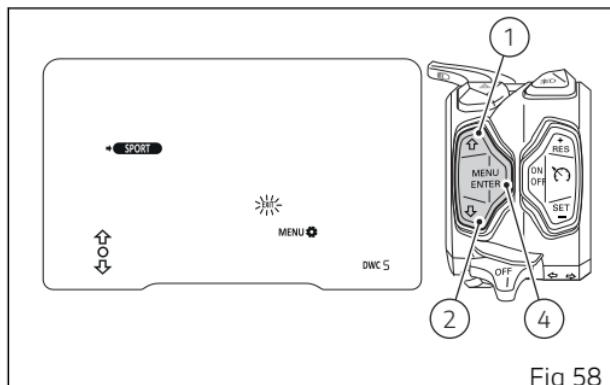

Fig 58
The instrument panel displays the new set level and "EXIT" flashing (Fig 58). Now press button (4) to go back to previous display mode.